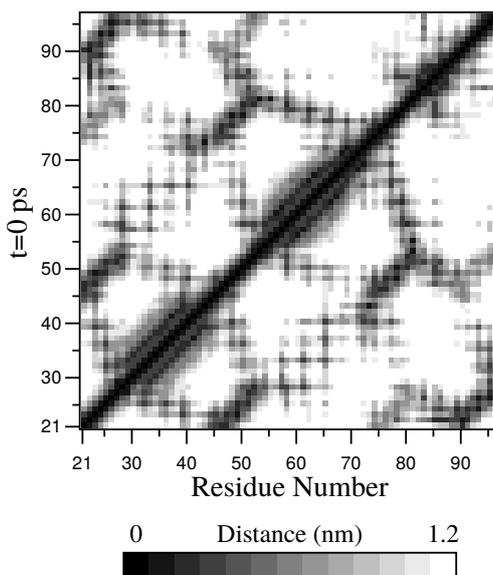

Fig. 5.55: A minimum distance matrix for a peptide *168* (page 517).
- To monitor the *minimum distances between amino acid residues* within a (protein) molecule, you can use the program *gmx mdmat* (page 109). This minimum distance between two residues A_i and A_j is defined as the smallest distance between any pair of atoms ($i \in A_i, j \in A_j$). The output is a symmetrical matrix of smallest distances between all residues. To visualize this matrix, you can use a program such as *xv*. If you want to view the axes and legend or if you want to print the matrix, you can convert it with *xpm2ps* (page 179) into a Postscript Fig. 5.55.